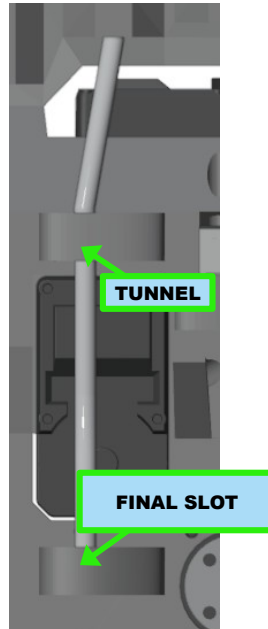
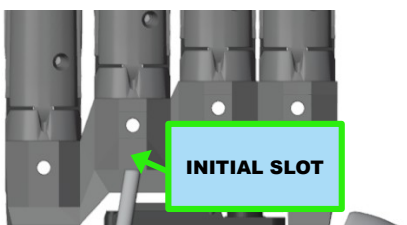

Figure 5.36: Inserting the tube into the pass-through tunnel and then into the final slot (rear view)
Figure 5.37: Inserting the tube into the initial slot (rear view)
1. Insert the PTFE tube into the outlet hole (on the rear of the skeleton) of the flexion tendon (figure 5.37), pass it through the pass-through tunnel and let it come out through the inlet hole on the front of the skeleton and insert it into the initial slot (figure 5.36).